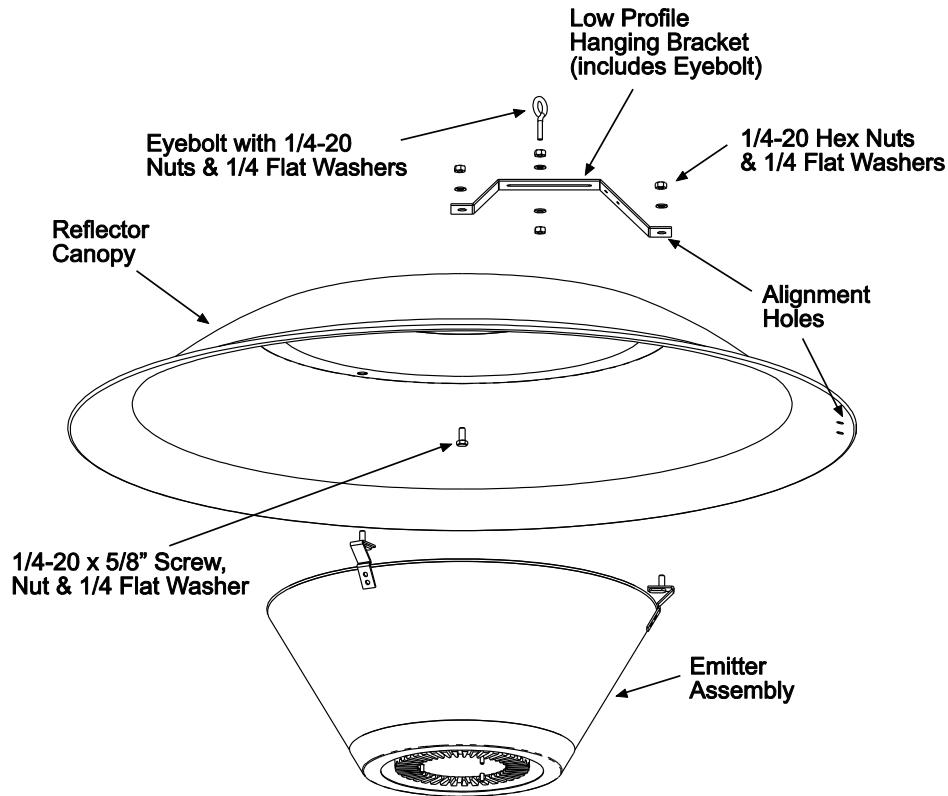

FIGURE 1
2. Place the Low Profile Hanging Bracket onto the Canopy as shown. Secure the bracket to the center of the Canopy with a 1/4-20 screw, nut and washer from the Fastener Kit. Assemble the eyebolt to the hanging bracket with nuts and washers. Align the hanging bracket with the two (2) holes located at the edge of the Canopy. See Figure 1.
4. Place the Canopy over the Emitter Assembly so that the mounting studs pass through the three (3) holes in the Canopy and the hole in the hanging bracket. Secure the Canopy and the hanging bracket to the mounting studs using nuts and flat washers as shown. See Figure 1.